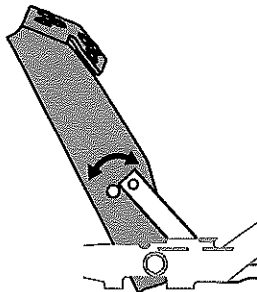

Figure 36
3. Position the pedal to the optimal position based on operator preference. See Figure 36.